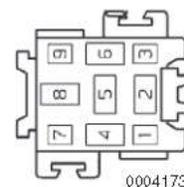

Figure 12-6
NOTICE: When using a common automotive test lamp to test relays and their circuits, contact with terminal 85 (**Figure 12-6, (2)**) will cause the relay to engage. This will result in starter engagement or fuel pump operation.